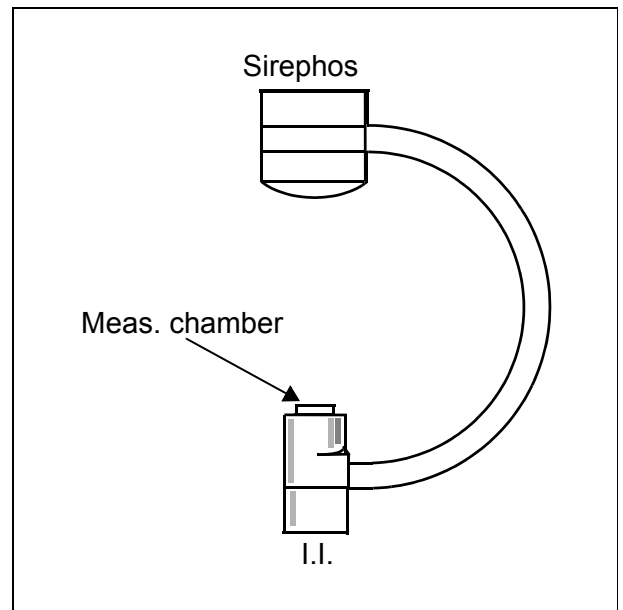

Fig. 7
- Attach and center the small (1cm³) dose measurement chamber (DALI, NOMEX) or the semiconductor detector (DIADOS) of the dose measurement device onto the image intensifier (Fig. 7)